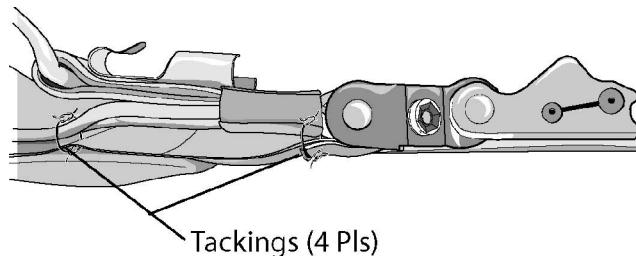

Figure 1. Tacking Anti-Rotation Straps
a. Hand tack anti-rotation straps as shown in Figure 1. Tack right and left risers using one turn single FF thread waxed.